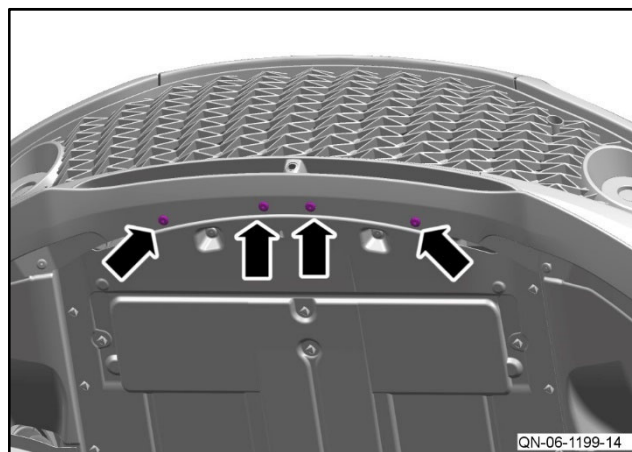

Figure 18
- 19** Install and torque the four screws for the front bumper cover to 5 Nm (refer to Figure 18).